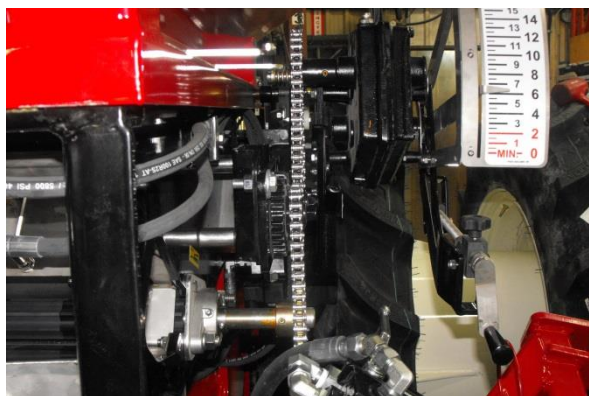

Figure 12J
6. To tighten the chains, slide the reverser down or up and left or right to reach the ideal tension. Also be very careful to align well the chains [Figure 12J].